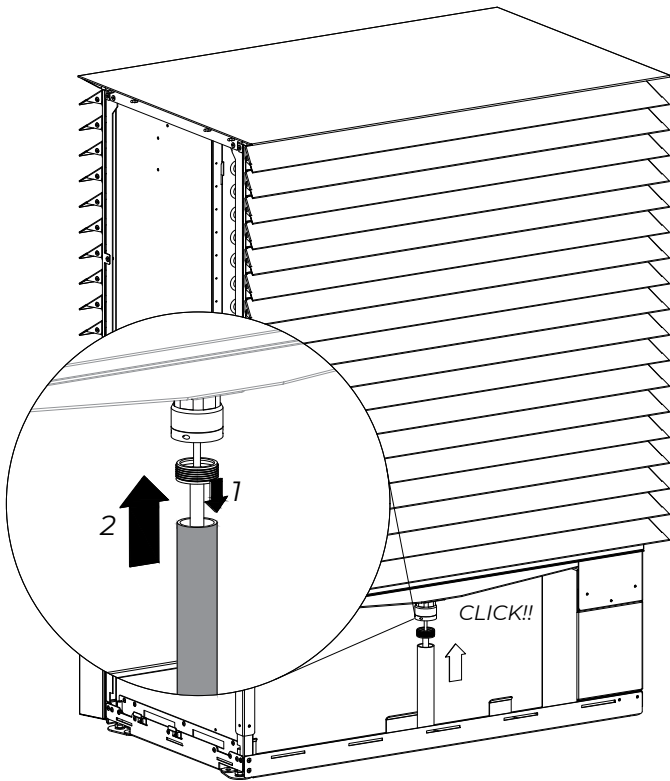

Figure 11: Attaching the condensate drain
Install the gasket (1) on the hose and insert it into the fitting on the condensate trough (2). Be sure to push the hose fully into the fitting. Then pass the pipe into the prepared drain \varnothing 50 leading to a storm water drainage (Figure 11).
Connect the pipe to the appliance as shown in Figure 11